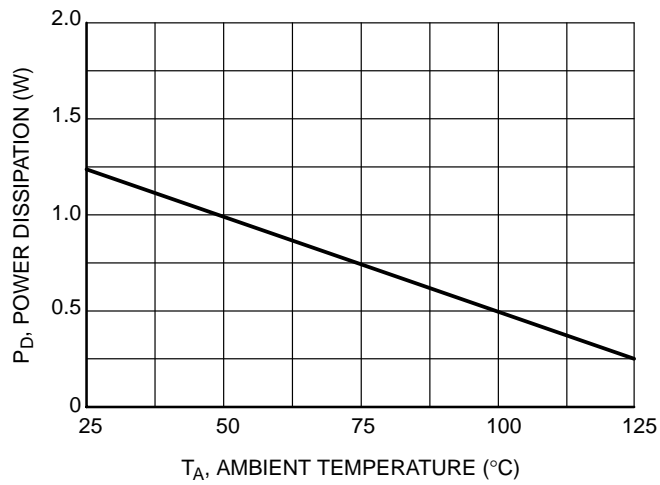

Figure 3. Max Power Dissipation (P_D) vs. Ambient Temperature (T_A)
7. If $P_D > 1.25 \text{ W}$ (or derated value based on ambient temperature, Fig. 3), then select the most appropriate recourse and repeat steps 1–6: